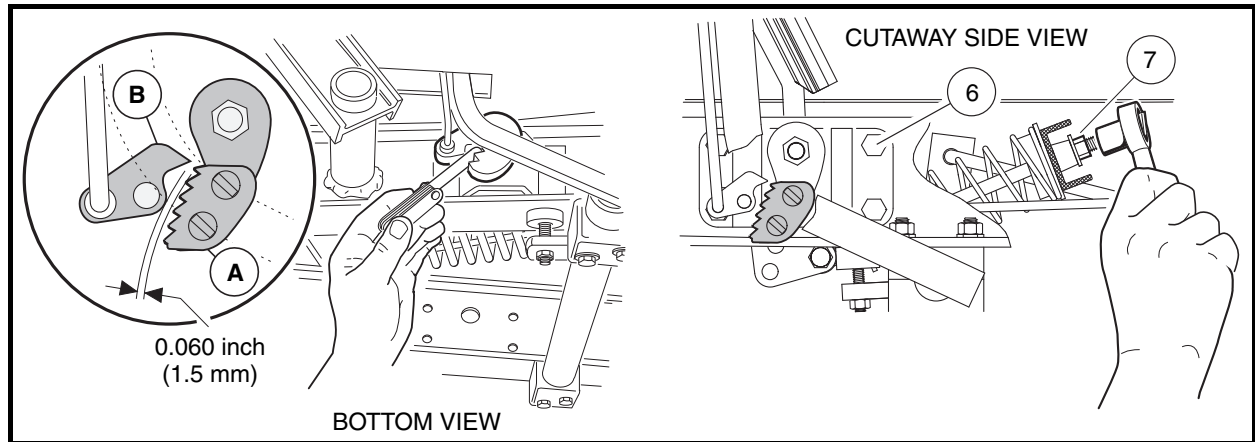

Figure 5-13 Park Brake Ratchet/Pawl Gap Adjustment
- 3.2. Adjust retaining nut (7) on spring support rod until there is a 0.060 inch (1.5 mm) gap between the pawl and the tips of the ratchet teeth. Use a feeler gauge to verify the gap (**Figure 5-13, Page 5-13**). The gap should be consistent through range of pawl movement. If the gap is not consistent, loosen the four bolts (6) securing the accelerator pivot rod supports and adjust the supports. If the gap becomes smaller as the park brake pedal is pressed, move the pivot rod supports slightly rearward until the gap is consistent. If the gap becomes larger as the park brake pedal is pressed, move the pivot rod supports slightly forward until gap is consistent. **See following NOTE.**